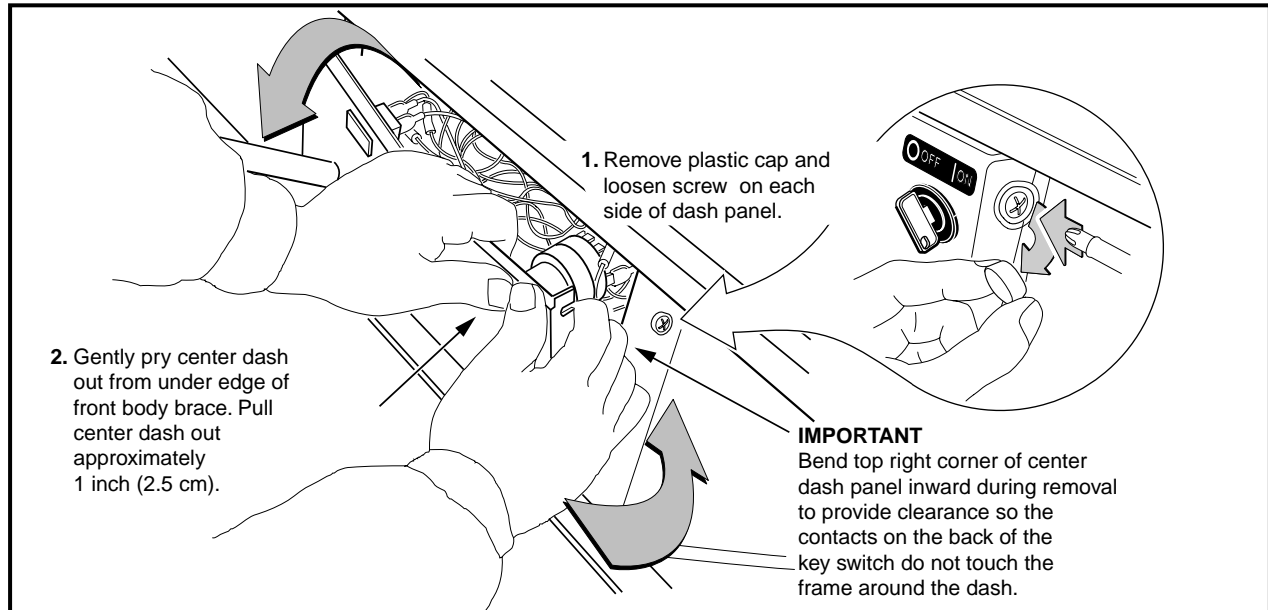

Figure 7-3 Dash Removal
3. Remove the center dash panel (**Figure 7-3, Page 7-3**).
- 3.1. Remove the plastic cap covering the mounting screw on each side of the center dash (**Figure 7-3, Page 7-3**).